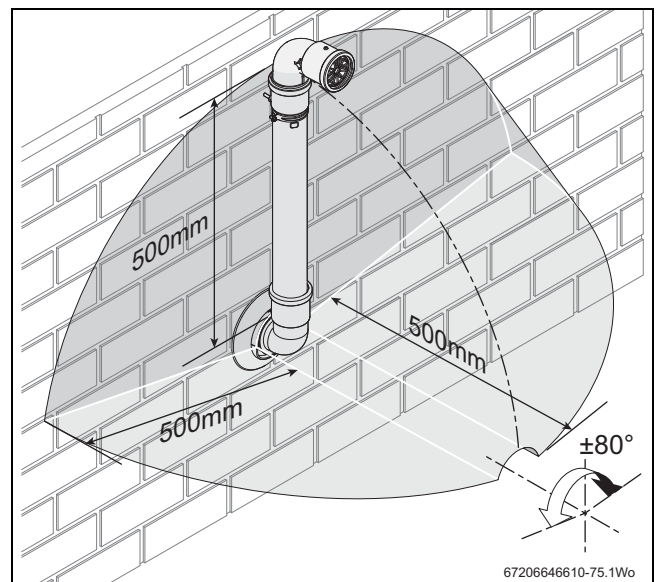

Fig. 22 Terminal exclusion zone
The minimum plume length should be calculated to ensure that the air inlet and exhaust have a minimum distance of 500mm between them (→ figure 22).
- ▶ Do not terminate the plume management inside the shaded area shown in figure 22